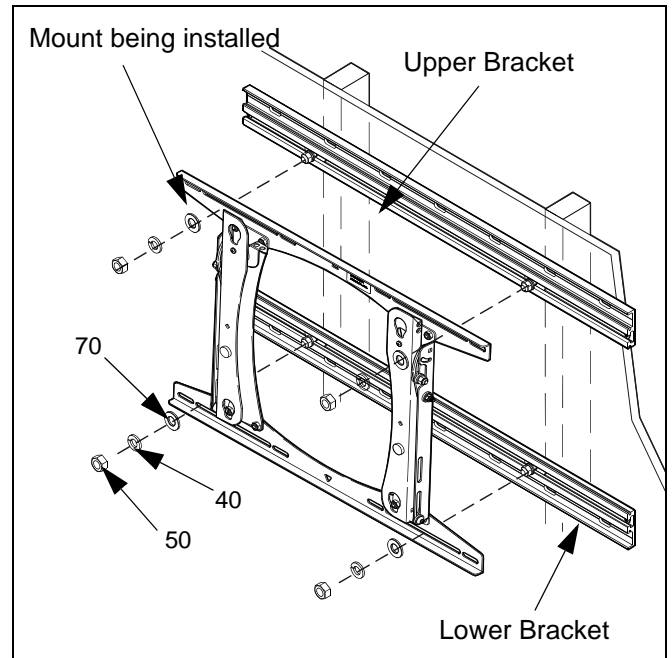

Figure 8: Install Mount to Lateral Shift Brackets
12. Place mount onto mounting studs on lateral shift brackets and secure using four Flat washers (70), four lock washers (40), and four hex nuts (50). (see Figure 8)